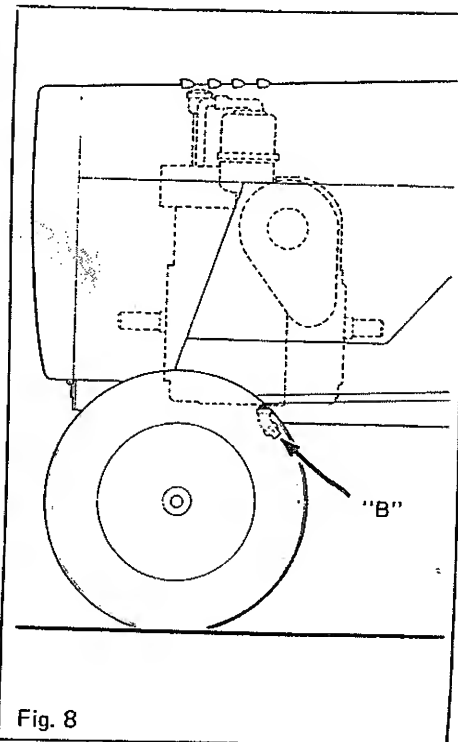

Fig. 8
On a new engine, change oil after the first 5 hours and thereafter at 25 hour intervals. Drain oil while it is hot for it will then flow more freely and thus carry away more impurities. Drain plug (B), Figure 8 & 9 is located under engine.